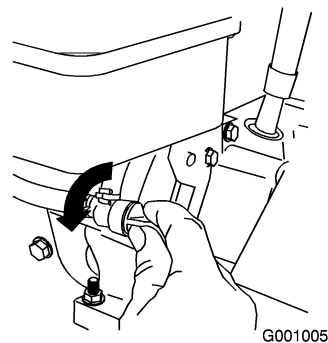

Figure 21
3. Rotate the fuel shutoff valve counterclockwise to open it (Figure 21).